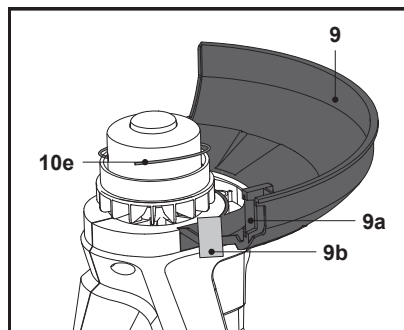

Fig. 6
The guard (9) protects the operator against thrown objects during (9) operation. It is equipped with a knife (9a) that cuts the trimming lines (10e) (Fig. 6).